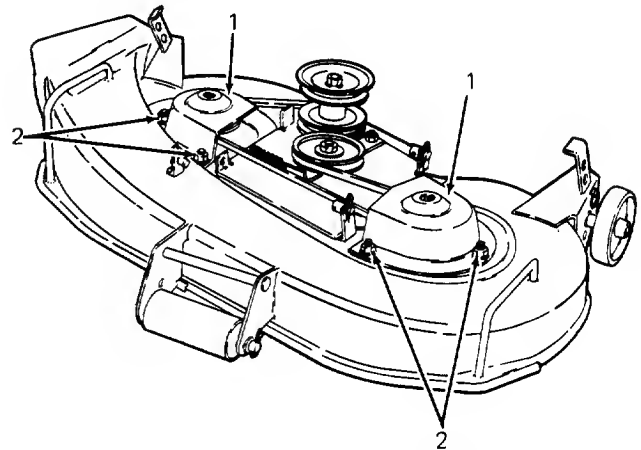

Figure 52
In order to replace the spindle drive belt, refer to Figures 52, 53 and 54 and proceed as follows:
5. Install a new belt. Refer to Figures 52, 53 and 54 for proper placement of belt. Push against idler pulley to aid the installation.